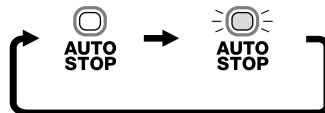

Fig. 22
- (2) Auto stop mode selector switch (**Fig. 22**)